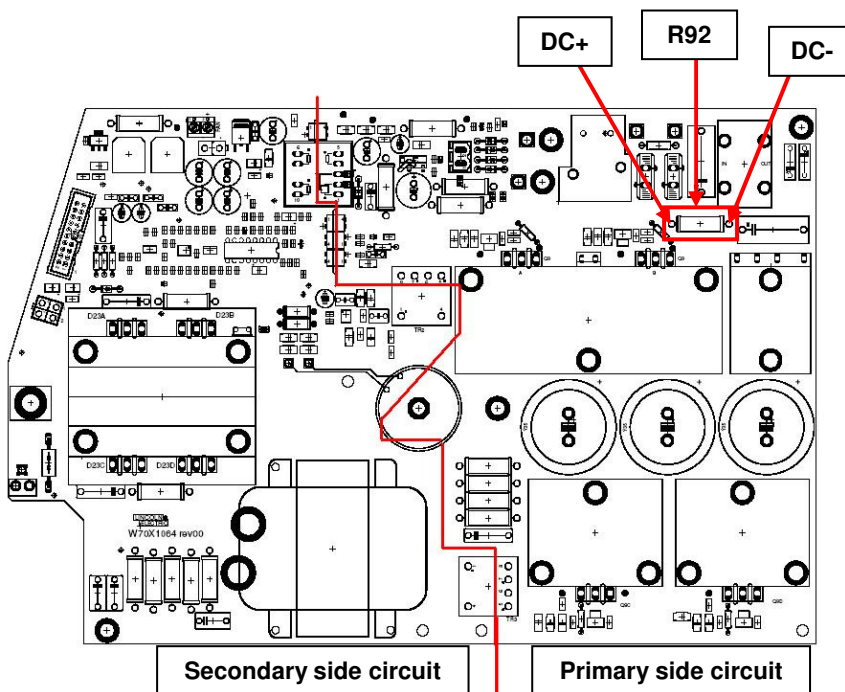

Figure 1 - Capacitors discharge location
5. Locate the resistor **R92** that is directly connected to the terminals **DC+** and **DC-** on the main board, **See Figure 1** and check the voltage across it, it should be zero; if not follow the next step.